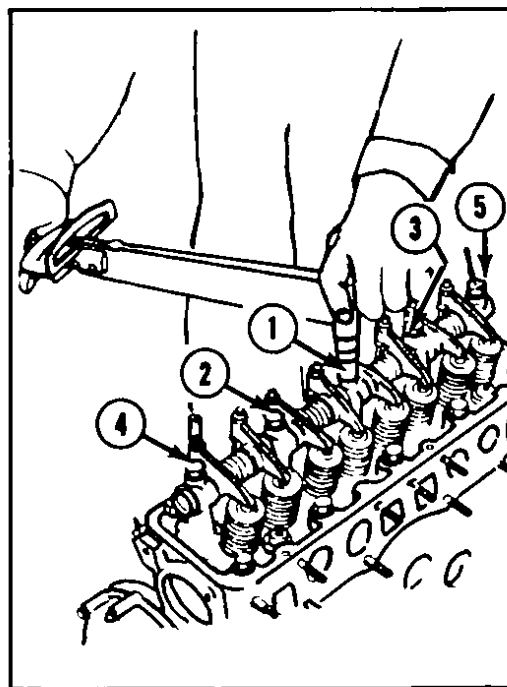

Fig 137 Rocker shaft bolt tightening sequence – Model B210
- 6 Tighten the rocker shaft bracket in three steps to a final torque of 20 to 25 N•m (14 to 18 ft -lbs) in the sequence shown in Fig 137